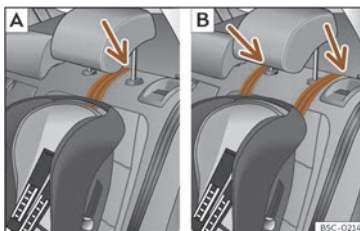
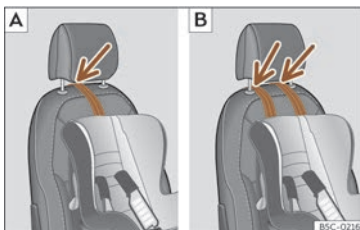

Fig. 44 Rear seats: adjustment and assembly according to the Top Tether belt.
Fig. 45 Passenger seat: adjustment and assembly according to the Top Tether belt.
- Position the belt under the headrest (according to the instructions of the seat itself, lift or remove the headrest if necessary) >>> **Fig. 44** , >>> **Fig. 45**.